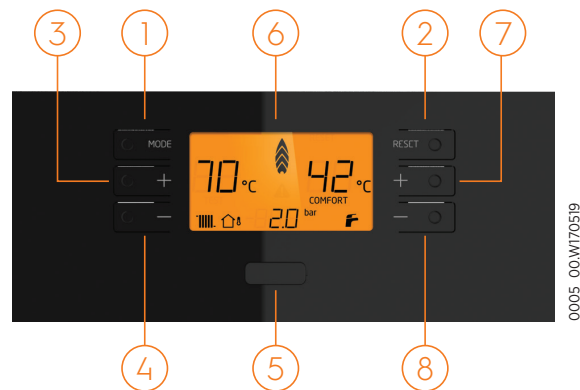

Figure 1 Control panel of Enerwa Plus Combi Boiler
In winter mode, boiler operates both for heating the environment and providing Domestic Hot Water. Radiator (CH) temperature adjustment is made with (3) and (4) numbered buttons in Figure 1 Domestic Hot Water temperature adjustment is made with (6) and (7) numbered buttons and this temperature is indicated with (9) numbered indicator for Radiator (CH) and with (11) numbered indicator for Domestic Hot Water.
When boiler is started, flame modulation symbol is seen at the middle section of the screen. At that position, you can increase and decrease the temperature with CH temperature adjustment buttons (see. Figure 1) (3) between 35 - 80 °C, screen lights when buttons are pressed and °C symbol flashes besides the CH temperature value.